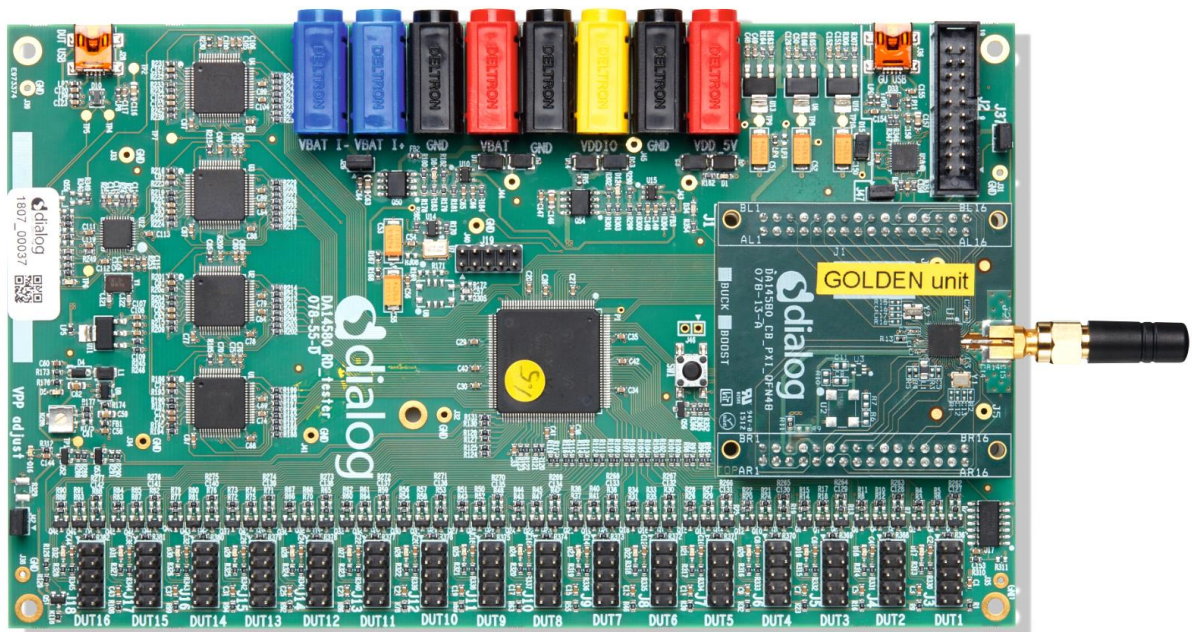

Figure 1. Production Line Tool hardware
- Main board (Figure 1) together with a DA14580-QFN48 Golden Unit (GU)